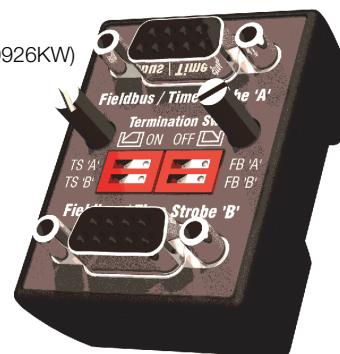

Figure 8. Fieldbus Baseplate Terminator/Splitter - for Non-FCP280 Baseplates
- ▶ Fieldbus Baseplate Terminator/Splitter (P0926KW) allows splitting of the A and B Module Fieldbus signals into different cables. This splitter can be used to interconnect optional redundant cables between baseplates. It can also be used to terminate the fieldbus signals. (See Figure 8.)